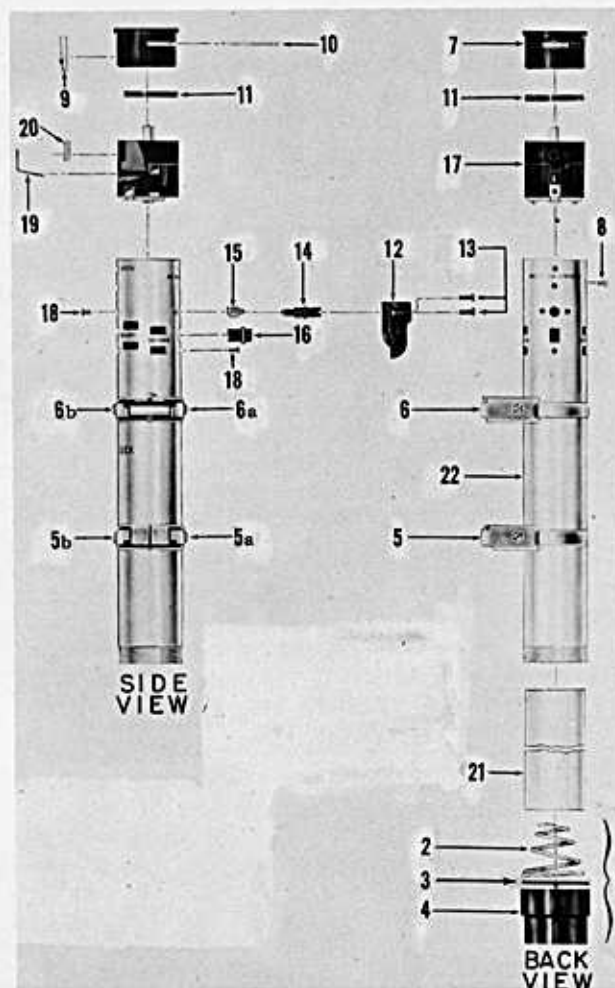
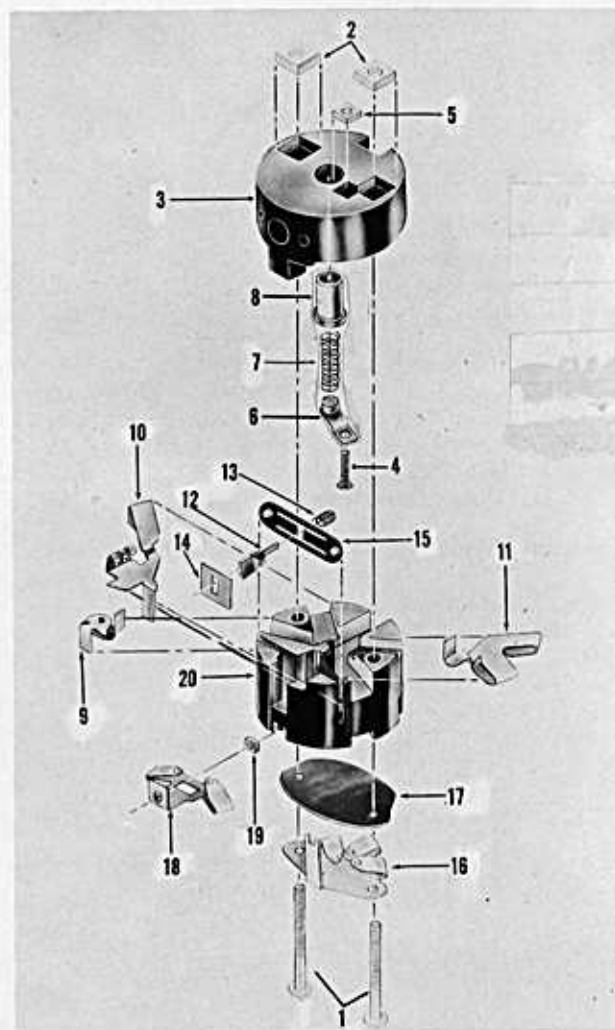

Figure 3. BATTERY CASE COMPLETE (GRAFLITE)
Figure 4. SWITCH AND OUTLET ASSEMBLY
Worn lamp locking ring (10, Fig. 3) or (13, Fig. 5) or (8, Fig. 7)	Replace ring
Worn lamp locking ring spring (9, Fig. 3) or (12, Fig. 5) or (7, Fig. 7)	Replace spring
- b. Ring (10, Fig. 3) should slide forward when button (5, Fig. 10) is pressed and eject flash lamp.
1. Graflite Battery Case (Figure 3)
a. When assembling contact (15) to switch (14), the open section of the contact should be positioned up and the white dot on the switch positioned to the upper left. Gently insert oriented parts, simultaneously pressing and turning them into round hole above button (16). Switch must be inserted to flange and must turn in a clockwise direction without fouling.
b. When replacing gasket (11), flat side should face front of case (front is marked Graflex).
c. When replacing ring (10) in receptacle (7), key of ring must protrude into recess that accommodates spring (9). Place spring (9) into its recess. Slide these oriented parts into case so spring faces front of case and stud on spring centers in lower of two holes in front of case.
2. Switch and Outlet Assembly (Figure 4)